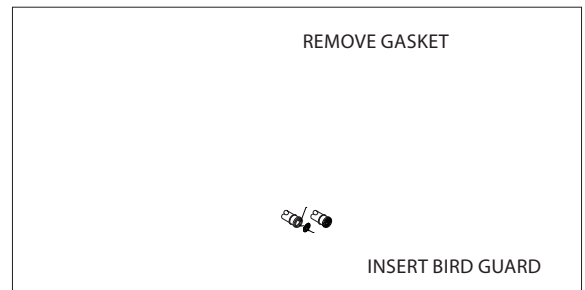

Figure 10
8. Remove gasket and install Bird Guard into end of pipe. (Fig.10)